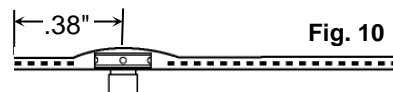

Fig. 10
8. Insert air fitting "head" into the hole in the bladder wall (Fig. 10).